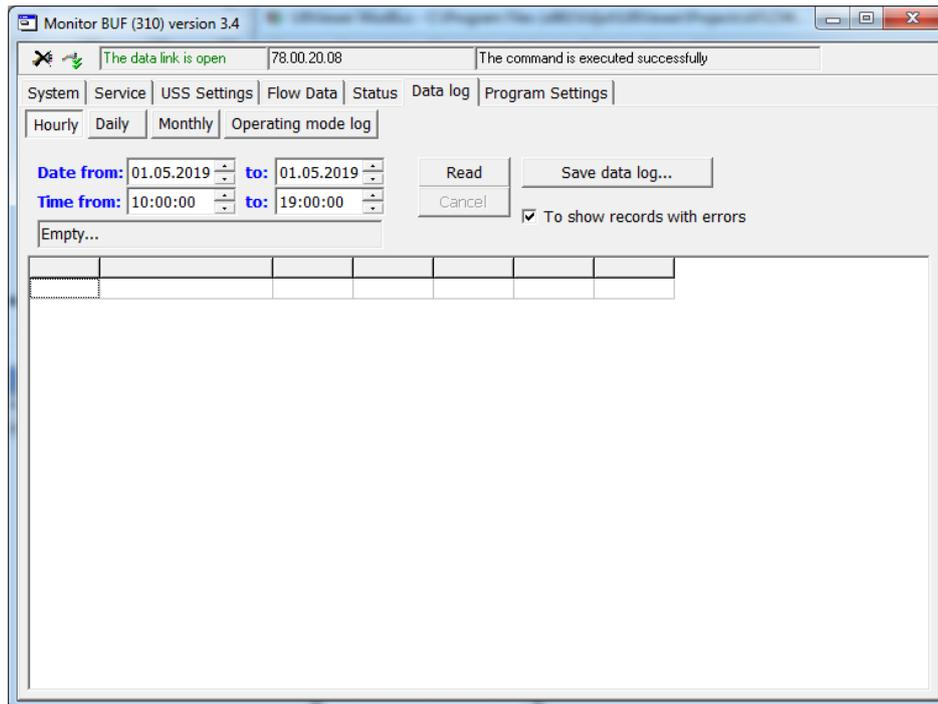

Fig.14. View of the Data log tab
4.1.6. To read the archive data, go to the **Data log** tab (Fig.14), select the type of archive (hourly, daily or monthly), set the required interval in the **Date from** and **Time from** fields and press the **Read** button.